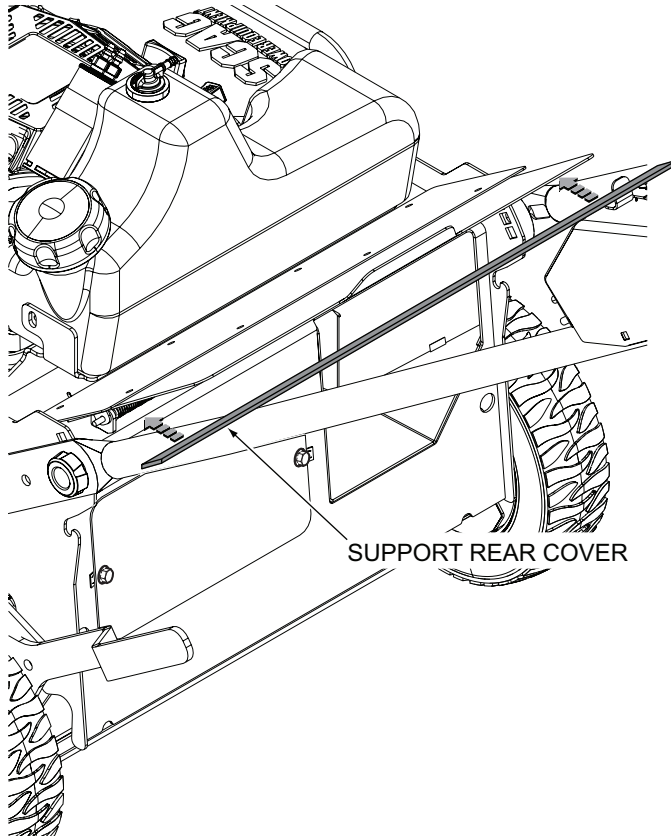

Figure 1-5. Lift and Support Rear Cover
4. While holding the handle bar assembly in place, use a piece of scrap material, broom handle or other object wider than the handle bars, lift and support the rear cover to gain access to the rear of the mower. See Figure 1-5.